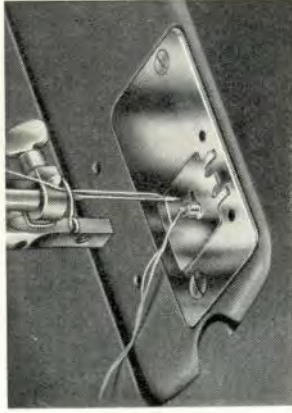

Fig. 44.
- b. Select eyelet embroidery cover plate with center stud matching the desired size of eyelet ( $1/8''$ ,  $3/16''$  or  $7/32''$  diameter, fig. 44) and place it on the needle plate.